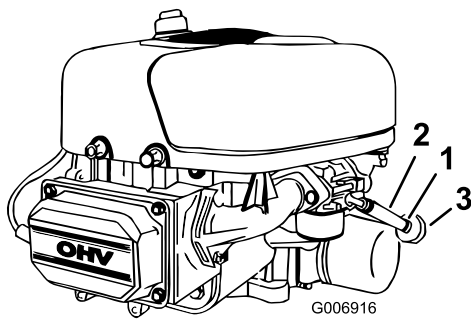

Figure 24
5. Open the hood and locate the fuel filter (Figure 24).
6. Squeeze the ends of the hose clamp together and slide it up the fuel line toward the fuel tank (Figure 24).
7. Pull the fuel line off of the fuel filter (Figure 24) and allow gasoline to drain into a fuel container or a drain pan.
The best time to replace the fuel filter (Figure 24) is when the fuel tank is empty. Never install a dirty fuel filter after it has been removed from the fuel line.
4. Squeeze the ends of the hose clamps together and slide them away from the fuel filter (Figure 24).